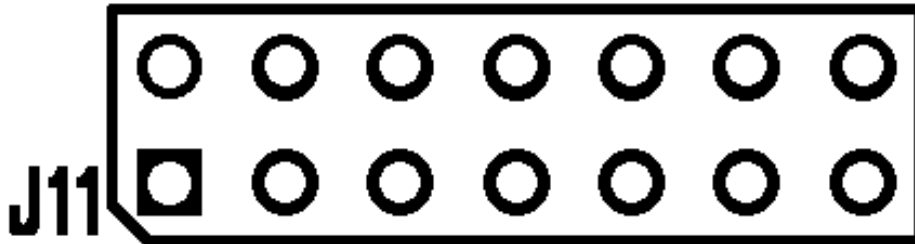

Fig. 2-3 Interrupt jumpers from left to right: IRQ 2,5,7,10,11,12,15
- Fig. 2-3 Interrupt jumpers from left to right: IRQ 2,5,7,10,11,12,15
The header connector, shown in Figure 2-3 below, lets you connect the onboard control logic interrupt outputs to one of the interrupt channels available on the host computer XT/AT bus.